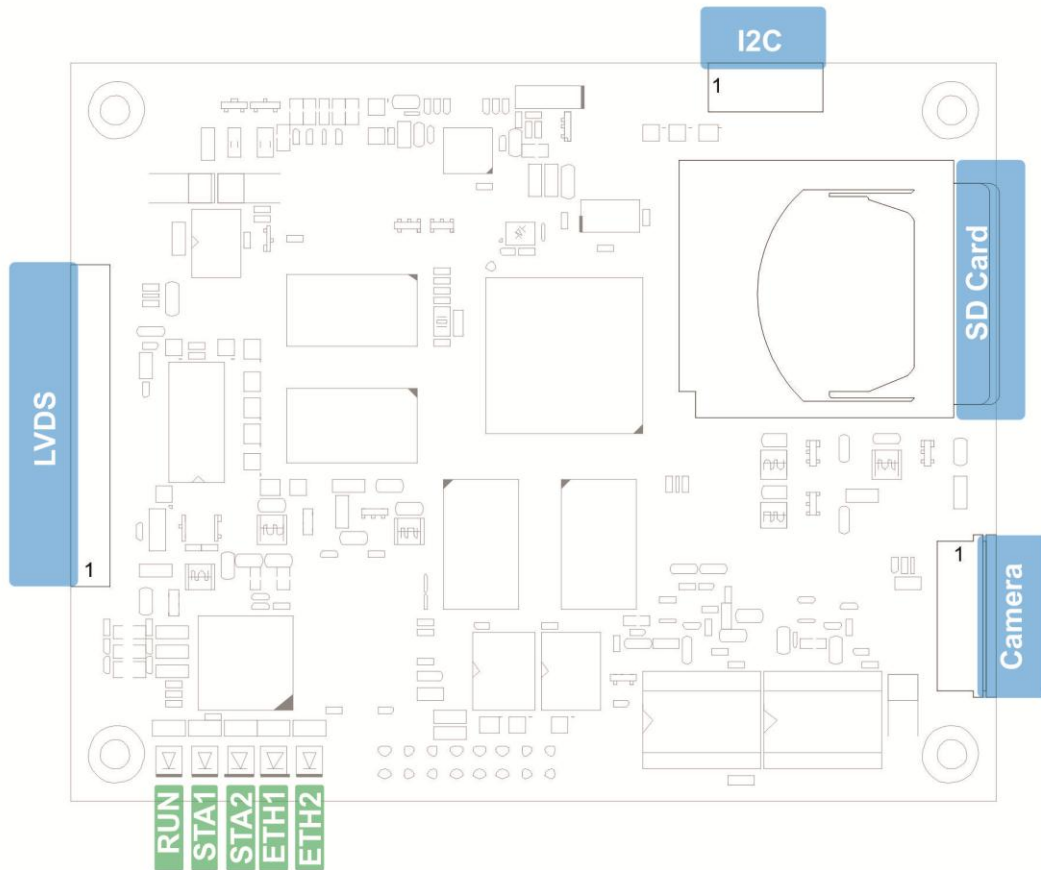

Figure 1: NetDCU14 interfaces (top side)
Before you power on NetDCU14, you should make a serial connection between NetDCU14 and your PC. Please use the cables shipped with the NetDCU14 Starterkit to connect your PC to the Debug-Port of the NetDCU14. The Debug-Port resides on the 66 pin feature connector. (see Figure 1). In hardware revision 1.10 the pins are located at a 5 pin single row connector which is mounted at pin 53, 55, 57, 59 and 61. That allows attaching a standard 9pin to DSUB9 adapter cable for debug output of boot loader and kernel with TX and RX to a terminal. Using RTS and CTS too needs a special cable adapter.
- Make a cable between power connector of NetDCU14 (see Figure 1) and your power supply. Usually you need to connect ground and +5V (2A).